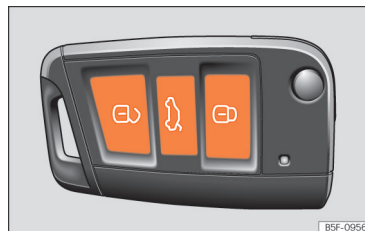

Fig. 51 Remote control key: keys.
- Lock: press the  >>> **Fig. 51** button.